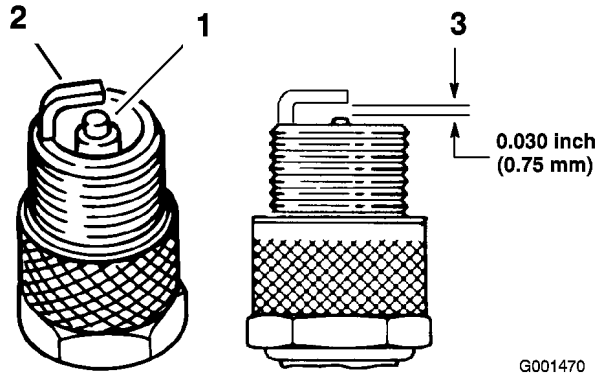

Figure 37
1. Look at the center of the spark plugs (Figure 37). If you see light brown or gray on the insulator, the engine is operating properly. A black coating on the insulator usually means that the air cleaner is dirty.
2. Check the gap between the center and side electrodes (Figure 37). Bend the side electrode (Figure 37) if the gap is not correct.
3. Connect the wires to the spark plugs (Figure 37).